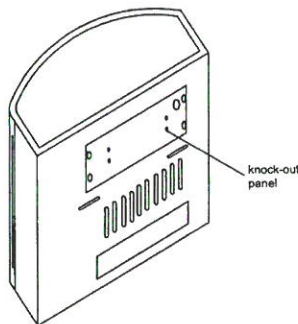

Figure 12-F -Removing stove Knock-out panel
1. From back of heater remove the Knock-out center panel with two brackets at the four sides with a Philips head screwdriver (see Figure 12-F).